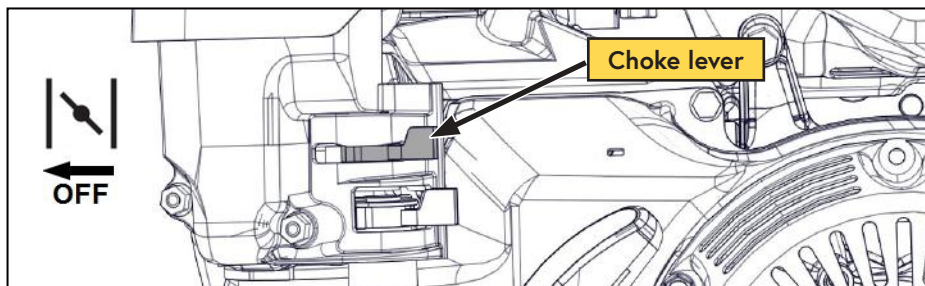

Figure 21 — Choke
- 7) Once the engine is running, gradually open the choke by moving the choke lever to the right as the engine warms up (Figure 21).